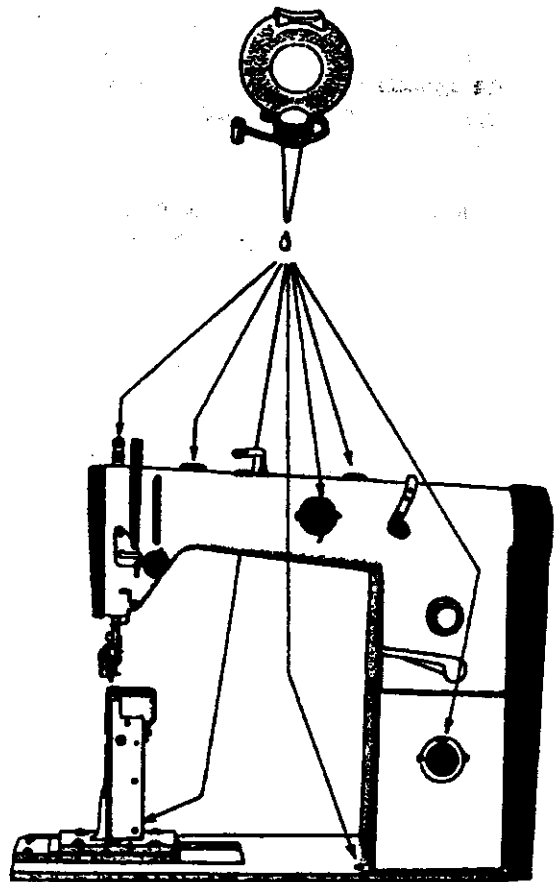

Fig. 1
5. To clean and lubricate the machine (Figs. 1, 2, 3, 4)